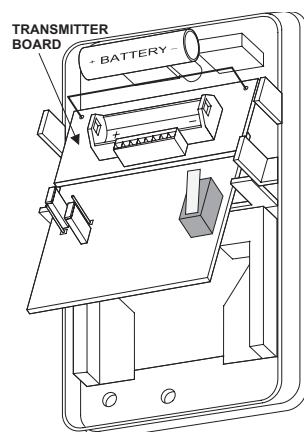

Figure 10. Removing the Transmitter Battery
2. Remove the transmitter (upper) circuit board battery (see Figure 10)